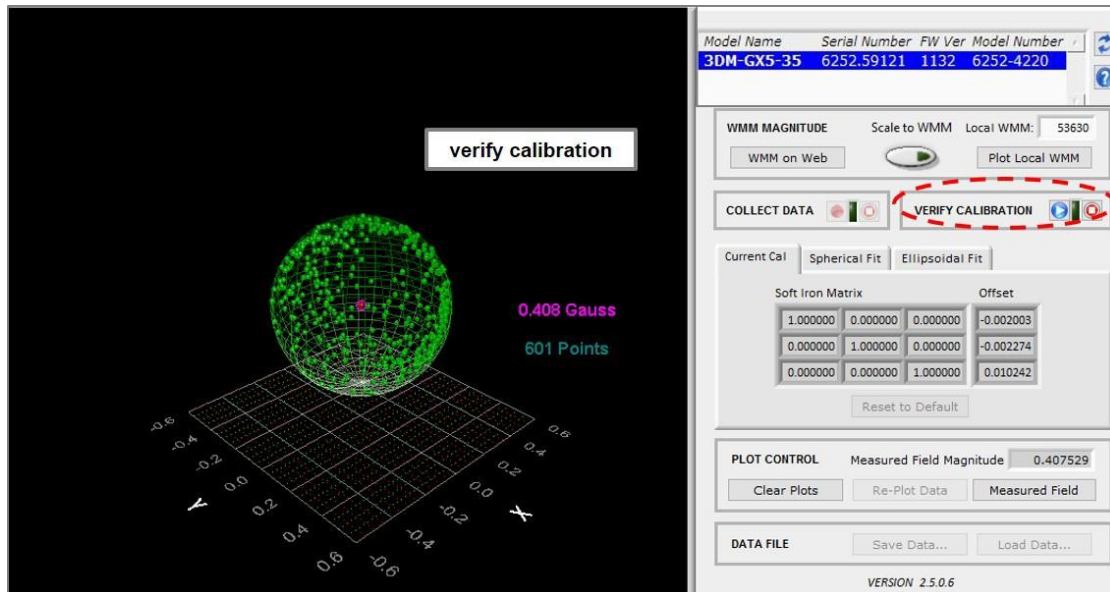

Figure 22 -Verify Calibration
9. Start a calibration verification by clicking the Start Streaming Data button next to Verify Calibration (*Figure 22 - Verify Calibration*). Rotate the device in all orientations in the same way as during calibration. When completed click the Stop Streaming Data button next to Verify Calibration. The resulting data points should be on or near the spherical grid. Hold the left mouse button and drag to rotate the image. The mouse wheel can be used to zoom in and out. If the fit is not close, the sensor may require re-calibration. If it is close, as shown, calibration and verification is complete.